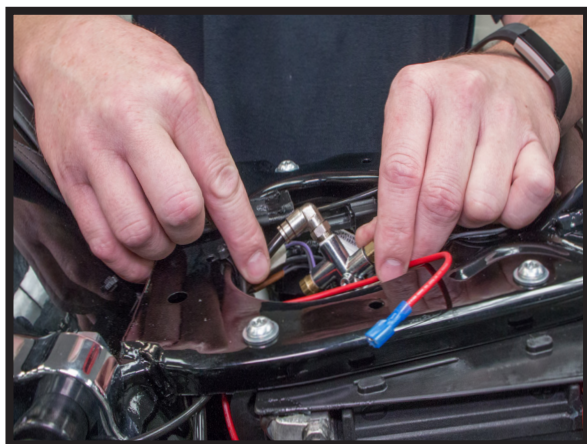

FIGURE 31
15. TRIM THE 1/4" HOSE TO LENGTH AND INSERT INTO THE AIR MANIFOLD. TRIM THE 4MM LINES TO LENGTH. FOLLOWING THE SAME PROCEDURES AS IN STEP 11, ATTACH THE AIR LINES TO THE MANIFOLD. (FIGURES 31, 32)